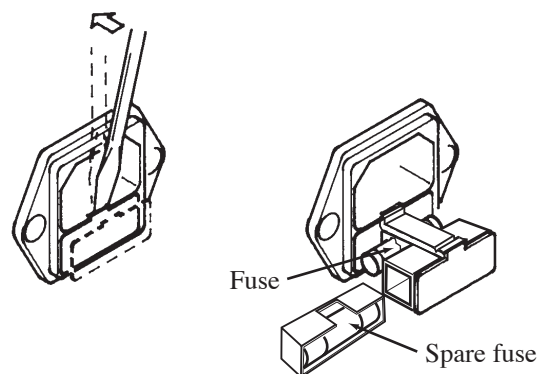

Fig.4-1 Method of Removing the Fuse Holder
- Use a fuse of shape, rating, and characteristics that conform to the product (1 A (T), 250 VAC). Using a fuse of a different rating or shorting the fuse holder is dangerous. Never carry out such acts.
3. Remove the fuse holder using a tool such as a flat-blade screwdriver as shown in Fig. 4-1.